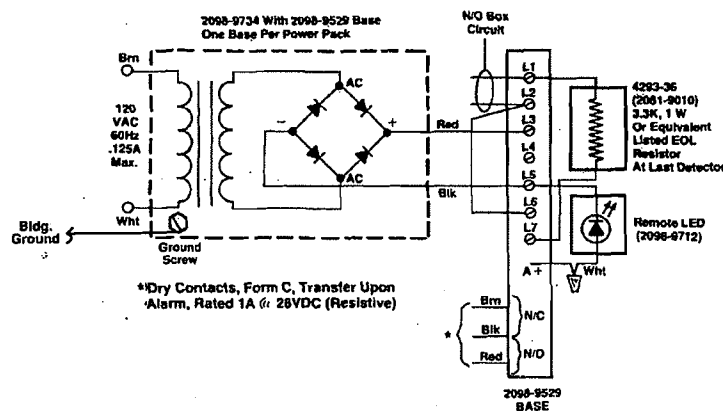
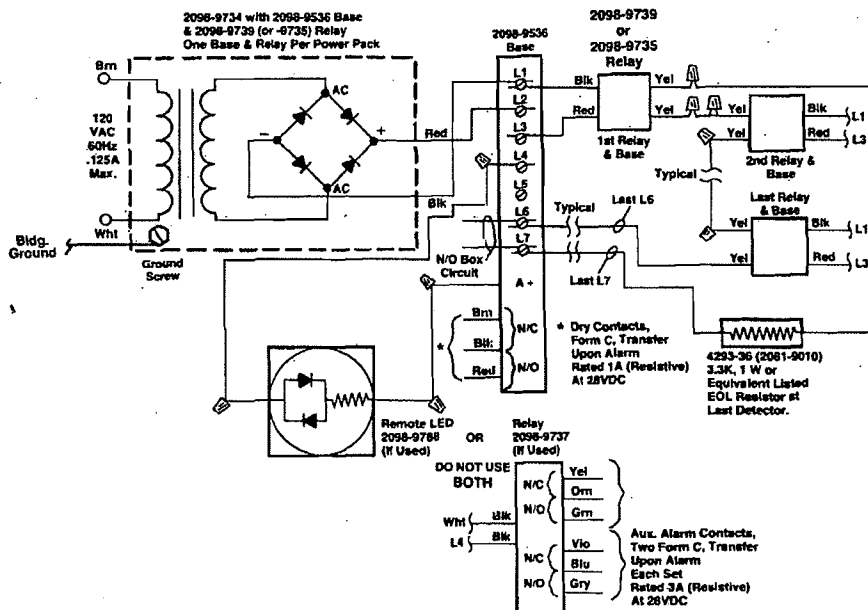

FIGURE 1
FIGURE 1A
1. Connect wires to power pack and base as shown below in Figure 1 for 2098-9529 Base or Figure 1A for 2098-9536 Base.